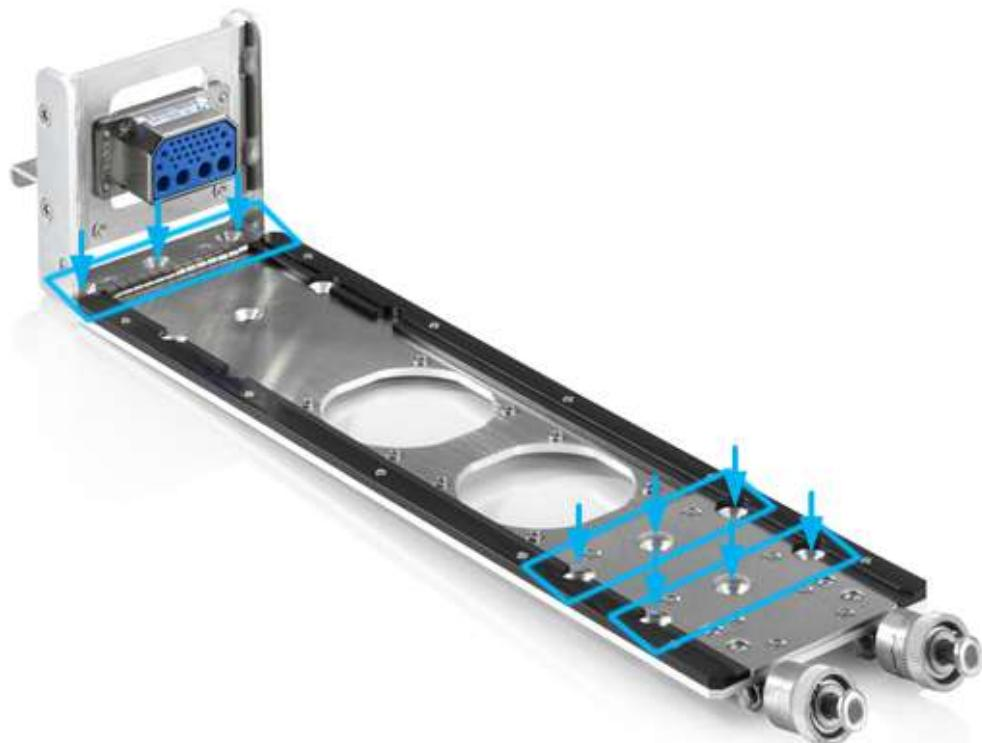

Figure 1-1: Perforations for installation in the rack
- a) Fasten 3 screws through the perforations on the left as shown in Figure 1-1.